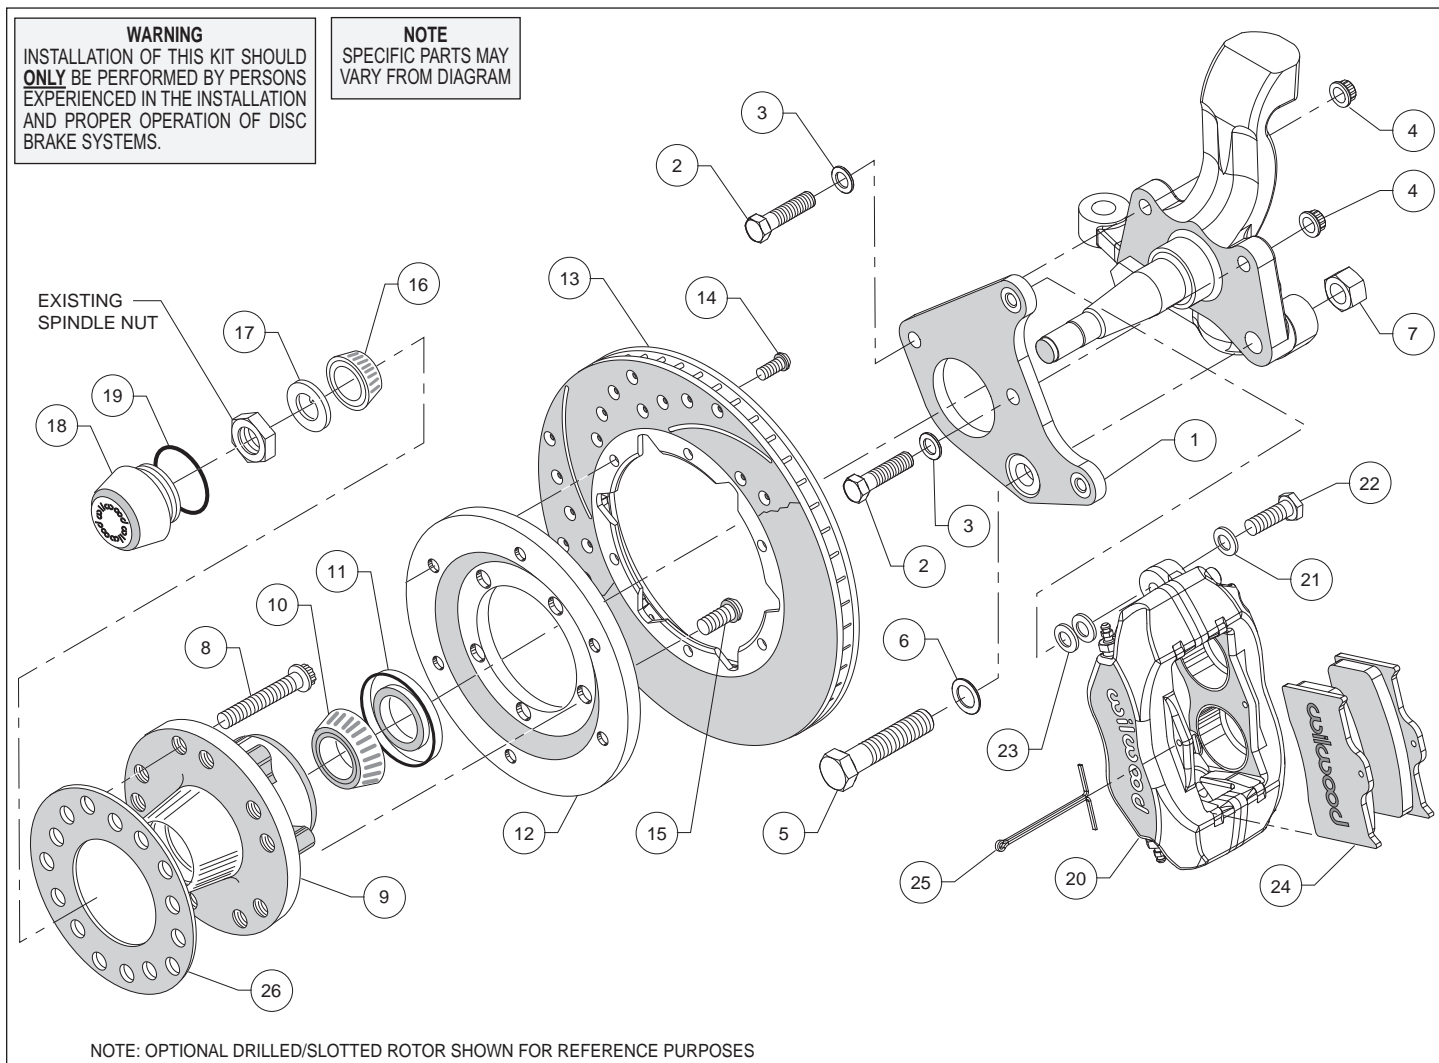
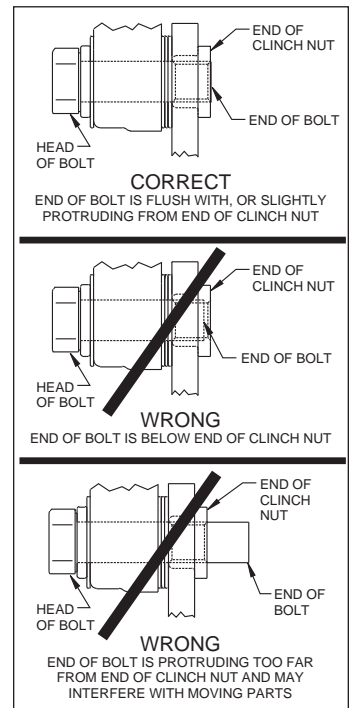

Figure 1. Typical Installation Configuration
Figure 3. Clinch Nut Engagement Diagram
**Assembly Instructions** (numbers in parenthesis refer to the parts list, on the preceding page and Figure 1): **CAUTION:** *All mounting bolts must fully engage clinch nuts.* Be sure to check that all bolts are either flush or protruding through flanged side of clinch nut after shimming, Figure 3.
- Align caliper mounting bracket (1) with the corresponding holes, to the face of the spindle. Attach using bolts (2/5), washers (3/6), and nuts (4/7), as shown in Figure 1 and Photo 1. Temporarily tighten the mounting bolts. Ensure that the flanged heads of the clinch nuts in the bracket are facing outboard, Photo 1. **NOTE:** *The bracket must fit squarely against the mounting points on the spindle.* Inspect for interference from casting irregularities, machining ridges, burrs, etc. Torque nuts (4) to 47 ft-lbs., and nut (7) to 140 ft-lbs.
- Orient the rotor (13) and the rotor adapter (12) as shown in Figure 1 and Photo 4. Attach the rotor to the adapter using bolts (14). Using an alternating sequence, apply red *Loctite*® 271 to the threads, and torque to 25 ft-lb.
- Mount the adapter/rotor assembly (12/13) to the hub (9) using bolts (15), as shown in Figure 1 and Photo 5. Using an alternating sequence, apply red *Loctite*® 271 to the threads, and torque to 45 ft-lb.
- Pack the small outer bearing cone (16) with high temperature disc brake bearing grease and install into hub (9). Slide the hub/rotor assembly onto the spindle. Secure using spindle washer (17) and OEM spindle nut, Photo 6. Adjust bearings per OEM specifications. Install saved OEM nut lock (if any) and a new cotter pin (not supplied).
- Screw dust cap (18) into hub (9), Photo 7. Friction created by the o-ring (19) on the dust cap keeps it from unscrewing. **NOTE:** The O.D. of the existing OEM spindle washer may be larger than the I.D. of the dust cap not allowing it to seat against the hub face. Therefore, use the spindle washer (17) supplied with the kit instead of the OEM washer.
- NOTE:** Please reference the caution statement at the beginning of the assembly instructions. Mount the caliper (20) onto the caliper mounting bracket (1) using bolts (22) and washers (21), as shown in Figure 1. Initially place two .035" thick shims (23) on each bolt between the caliper and the bracket, Photo 8. Temporarily tighten the mounting bolts and view the rotor (13) through the top opening of the caliper. The rotor should be centered in the caliper, Photo 9. If not, adjust by adding or subtracting shims between the bracket and the caliper. Always use the same amount of shims on each of the two mounting bolts. **NOTE:** The end of each bolt must be flush with or slightly protruding from the head of the clinch nut, as shown in Figure 3. If necessary place spare shims between washer (21) and caliper mounting ear to achieve the proper clinch nut engagement. Once the caliper alignment and clinch nut engagement are correct, remove the bolts one at a time, apply red *Loctite*® 271 to bolt threads, and torque to 40 ft-lb.